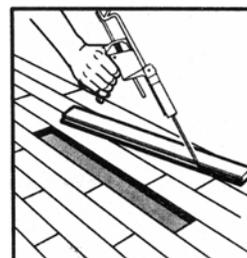

Figure 7-8
- G. Coat tongue and groove with adhesive. If available, use a fast setting epoxy to coat the back of the board to avoid the use of nails (described below) in the repair. Figure 7-8.